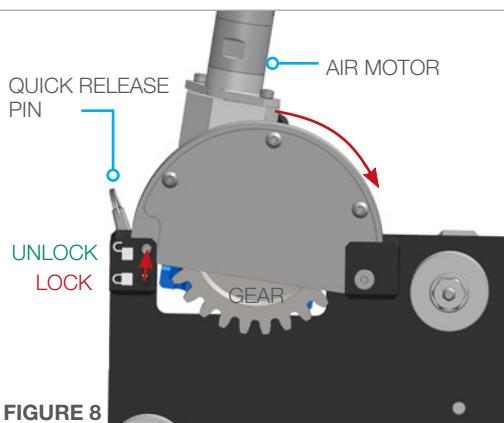

FIGURE 8
- Remove the **Quick Release Pin** from the *locked* position, pull back on the air motor to lift the gear, and insert the **Quick Release Pin** into the *unlocked* position. This will allow the **Vertical Drive Carriage** to slide onto the rail without pneumatic power. Center the carriage on the vertical rail, pull out the **Quick Release Pin**, let the gear drop into place and verify the gear is engaging the slotted rail correctly. Replace the **Quick Release Pin** into the *locked* position. (Figures 8 & 9)